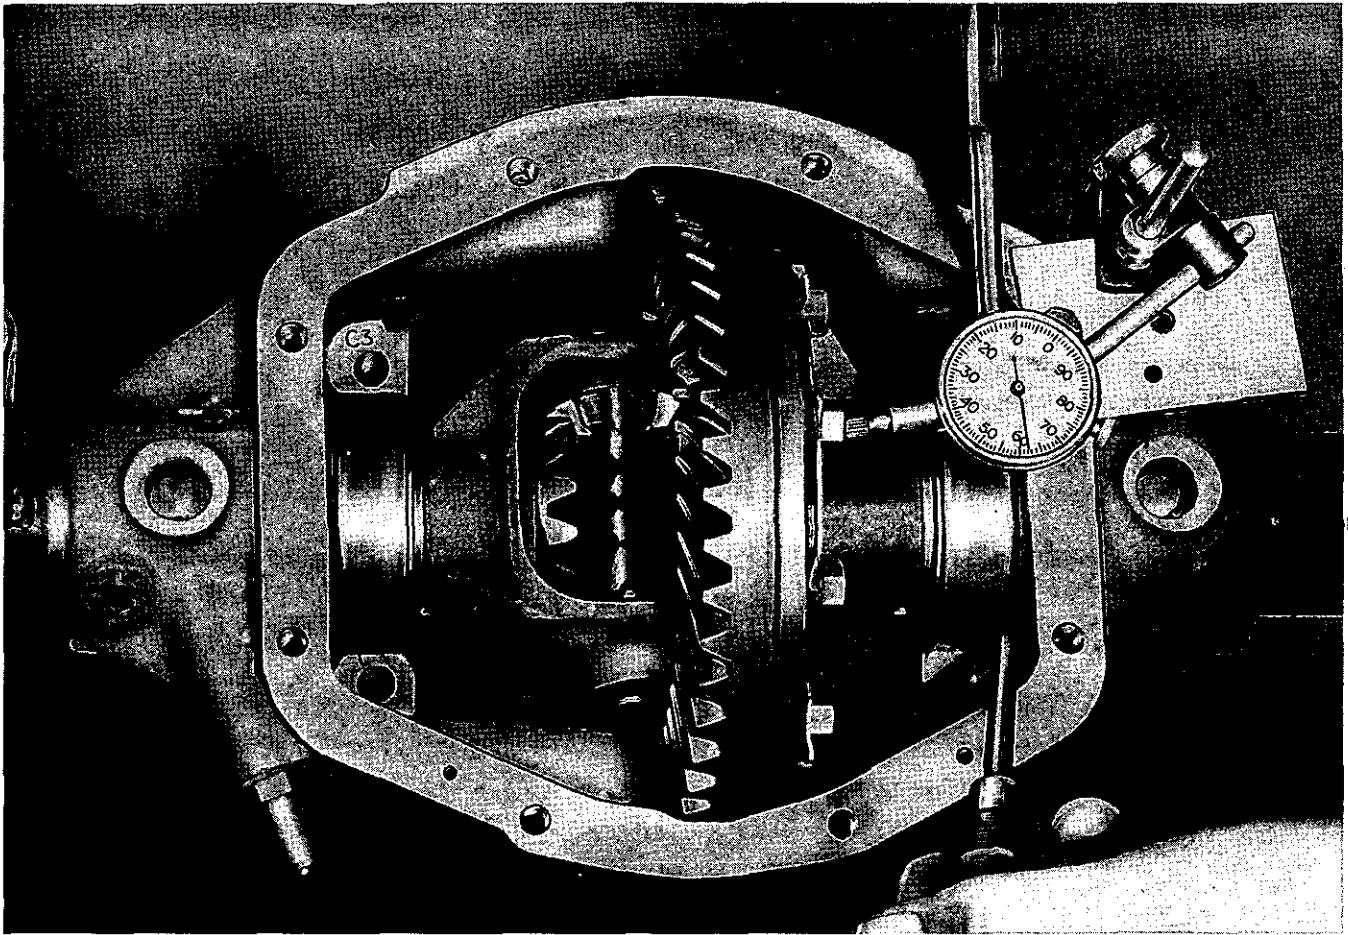

Fig. 18. Checking Differential Assembly for lateral movement in axle casing.
the plunger resting on the back of a crown wheel bolt, as shown in Fig. 18. The assembly is forced away from the dial gauge as far as possible and then the indicator set to zero. The assembly should then be levered in the opposite direction without tilting until the taper rollers go hard home in the dial gauge, .062" for example, indicates the total side float in the differential assembly. This latter reading is noted for reference later in the sequence of operation.
14. The differential assembly is again installed in the axle casing and a dial gauge fitted on the casing so that the plunger of the dial gauge bears against the back of a crown wheel bolt as shown in Fig. 18.